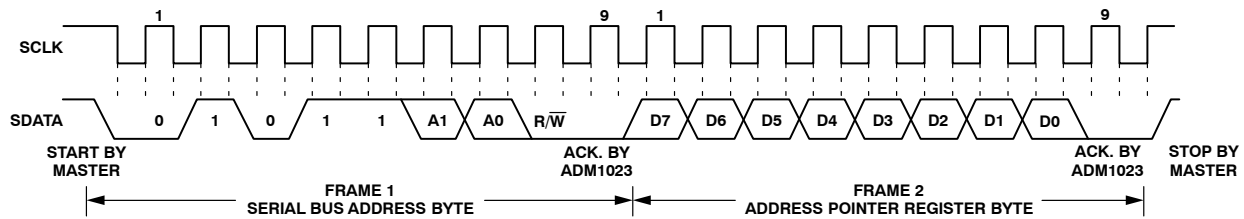

Figure 16. Writing to the Address Pointer Register Only
1. If the ADM1023's address pointer register value is unknown or not the desired value, it is necessary to set it to the correct value before data can be read from the desired data register. This is done by performing a write to the ADM1023 as before, but only the data byte containing the register read address is sent, as data is not to be written to the register. This is shown in Figure 16. A read operation is then performed consisting of the serial bus address, R/W bit set to 1, followed